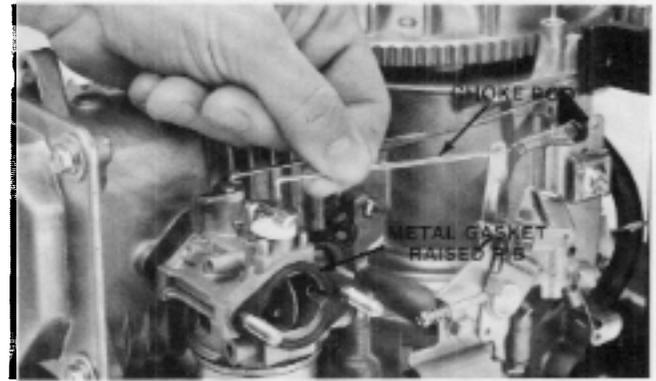

Figure 3-3
3. Lift the choke rod off the carburetor. The rod has a 90° bend as it is held in place by the body of the air cleaner. See Fig. 3-3. Please note the position of the gasket between the air cleaner and carburetor. The raised rib on the metal gasket should face the air cleaner.
- Install the choke and throttle shafts. Check Fig. 3-3 and 3-7 for proper orientation of the shafts.